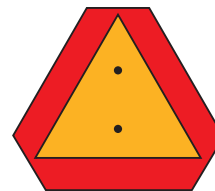

Figure 3-4: SMV Sign
11. Transport during daylight hours whenever possible. Always use flashing warning lights, except where such use is prohibited by law. Make sure lights, reflectors and SMV emblem are clearly visible and operating. Remove any obstructions such as dirt, mud, stalks or residue that restricts view before transporting. **See Figure 3-4.**